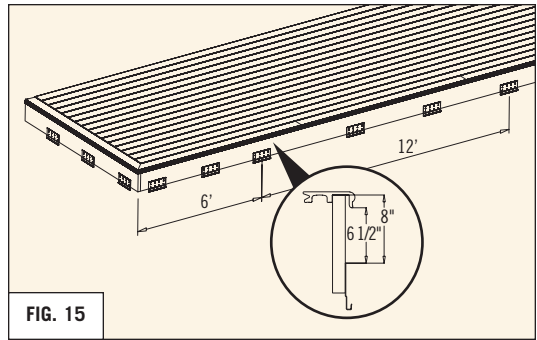

FIG. 15
- Screw the Cladding Hangers into the rim joist with Deck screws (four #8 X 1-1/2" screws per hanger). The top edge of the hangers should be located 6-1/2" below the lower lip of the bullnose. Use one hanger for every 3-5 feet of cladding length. Install a single hanger wherever two cladding lengths will meet end-to-end so that the hanger is shared by the two cladding lengths. (REFER TO FIG 15)